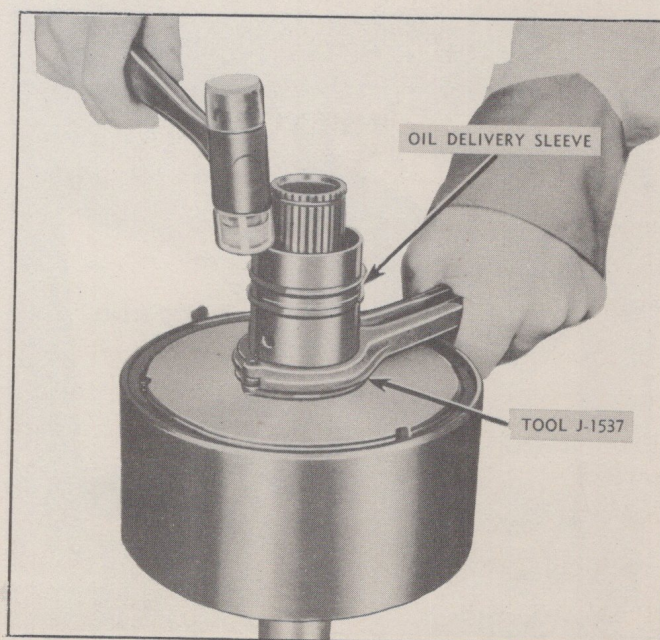

Fig. 254—Installing Oil Delivery Sleeve
16. Install oil delivery sleeve over planet carrier with long bearing up. Compress exposed oil delivery sleeve rings with ring compressor, J-1537, and tap oil delivery sleeve into bore of front clutch drum with rawhide or similar hammer (Fig. 254).